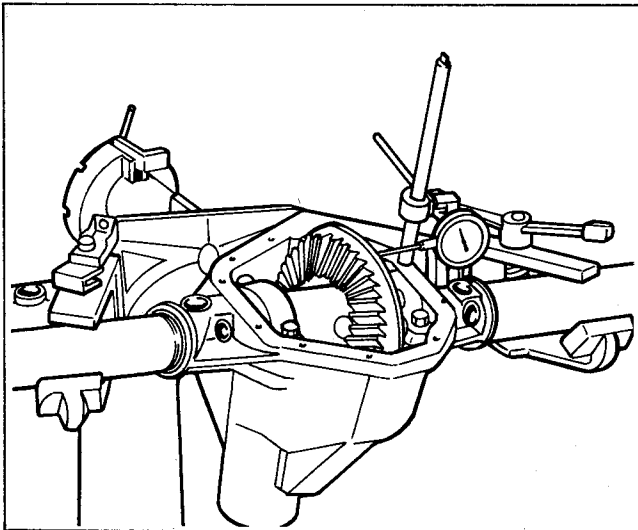

Figure 2-4. Check Drive Gear for Runout
1. Clean outside of housing thoroughly. Place rear axle and differential assembly (1) on a holding fixture or large vise, gripping tube with carrier cover facing upward.
2. Remove cover bolts and cover (2) and gasket (3).
3. Flush differential gears, bearings, and other internal parts of gear carrier with a non-flammable cleaning solvent. At this point, rotate drive gear, check drive gear back face for runout with a dial test indicator. See Figure 2-4. Total indicator reading in excess of .006" might indicate loose drive gear or a sprung differential case.